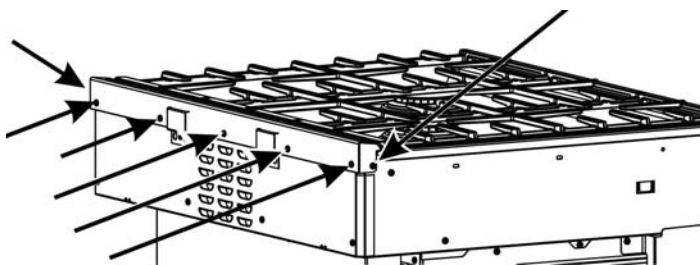

Figure 1: Trim Screws, Dual Fuel Range
Can the range slide out enough to have access to the rear and side trim screws? See Figure 1: Trim Screws, Dual Fuel Range.
2. Slide the range out enough to access the trim mounting screws (see Figure 1: Trim Screws, Dual Fuel Range).
4. Remove the screws holding the trim (five screws on the back and one screw on each end). Save the screws for installing the Island Trim (see Figure 1: Trim Screws, Dual Fuel Range).
7. Secure the Island Trim with one screw at each end and five screws in the back. See Figure 1: Trim Screws, Dual Fuel Range.